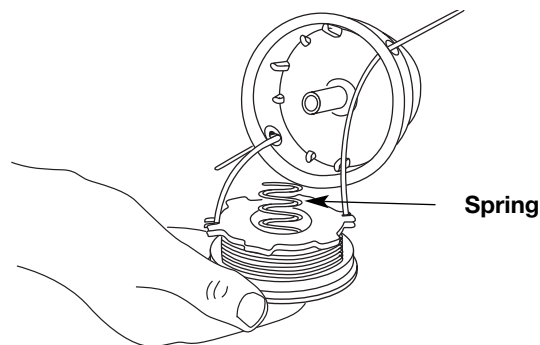

Fig. 20
- Insert the ends of the line through the eyelets in the outer spool and place inner reel with spring inside the outer spool (Fig. 20). Push the inner reel and outer spool together. While holding the inner reel and outer spool, grasp the ends and pull firmly to release the line from the holding slots in the reel.
- Insert the ends of the line through the eyelets in the outer spool (Fig. 20).